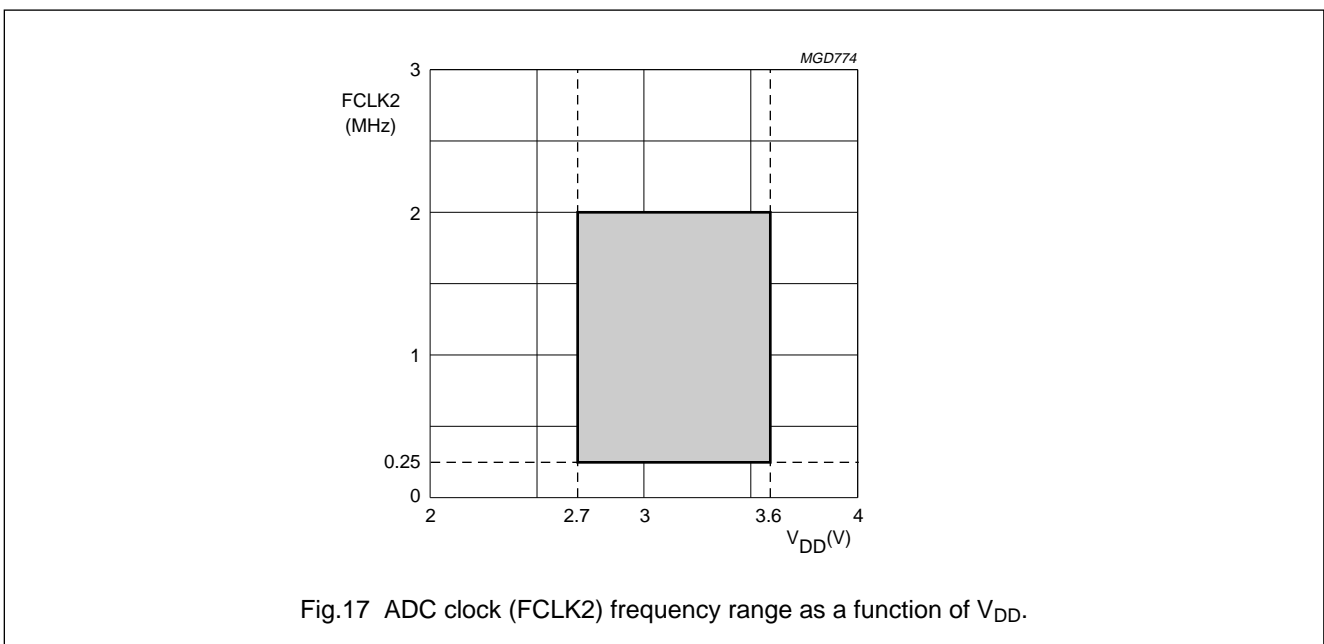

Fig.17 ADC clock (FCLK2) frequency range as a function of V_{DD}.
- See Fig.17 for specific FCLK2 range as function of V_{DD} .